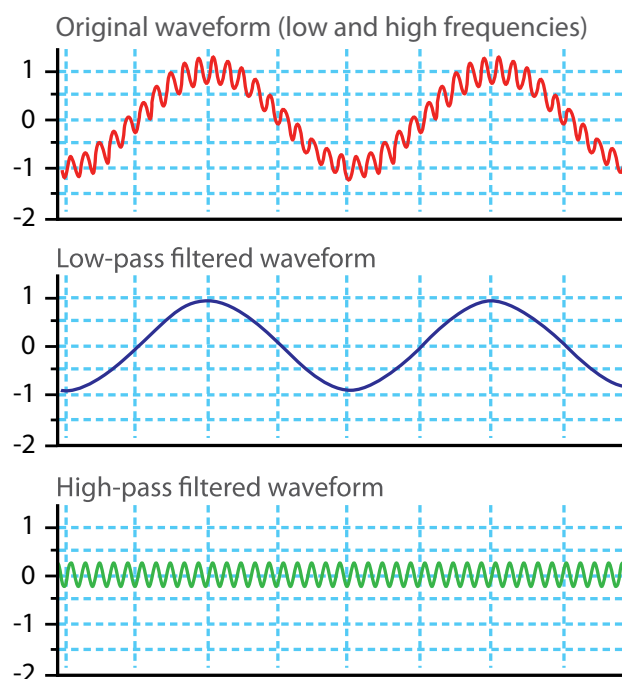

Figure 7 Comparison of the effects of low and high pass filters on a signal waveform.
A high-pass filter allows frequencies higher than the cut-off frequency to pass and removes any steady direct current (DC) component or slow fluctuations from the signal. Such filters are often used to stabilise the baseline of a signal (i.e. minimise baseline drift in an ECG signal). A useful comparison of the effects of a low-pass filter in comparison to a high-pass filter is presented in Figure 7.